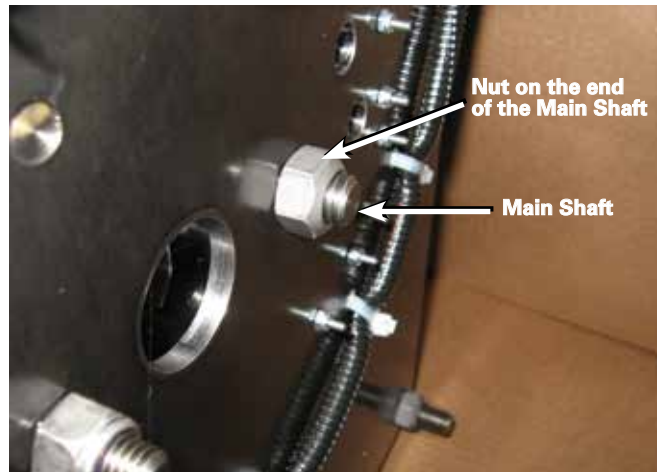

Figure 133. Fastening nut for main shaft.
- Remove the nut on the end of the main shaft using a 3/4" socket wrench. Use a 5/8" open end wrench positioned on the flats of the main shaft to hold the shaft in place during this procedure. Refer to Figures 133 and 134.